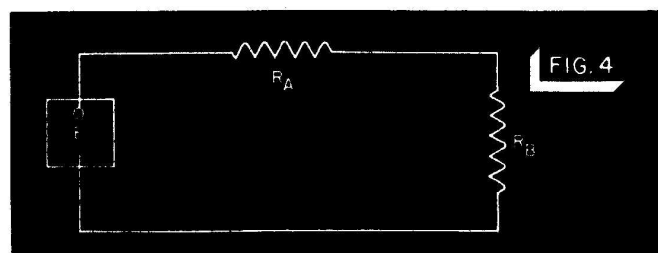

FIG. 4
A fundamental voltage distribution circuit is shown in Fig. 4. A voltmeter may be connected across the
► The basic circuit shown in Fig. 4 occurs again and again in practical radio circuits. For example, let's consider the power supply in Fig. 5. We may consider the power transformer and rectifier tube as the source of voltage. In this case, the speaker field  $L_{11}$  becomes comparable to the series part  $R_A$  of Fig. 4, and  $C_{19}$  and all the tube circuits connected across it correspond to  $R_B$  of Fig. 4.
Considering parts this way, all the conditions we described in the basic circuit of Fig. 4 are possible in each of the practical circuits of Fig. 5. Let's take some examples.